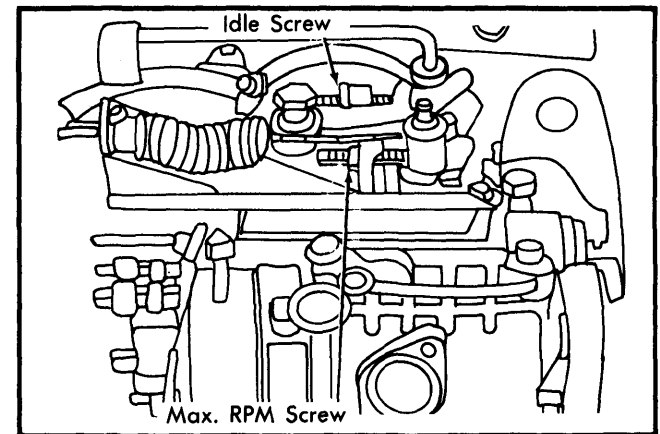

Fig. 2 Adjusting Idle Speed and Maximum Speed
2) Connect diesel tachometer (VW 1367) according to instructions from manufacturer. Adjust speed to specifications with idle adjusting screw. Tighten lock nut. See Fig. 2.